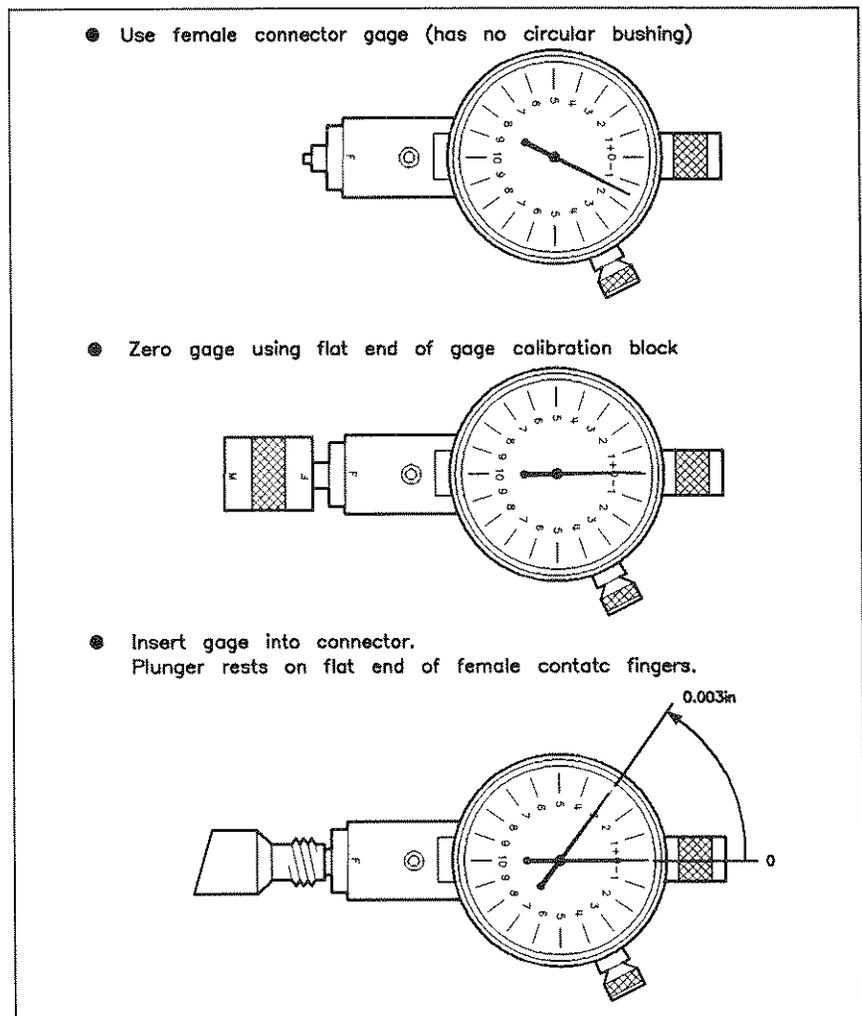

Figure 3-17.
1. Refer to Figure 3-17. Find the female 3.5 mm connector gage (usually marked F).